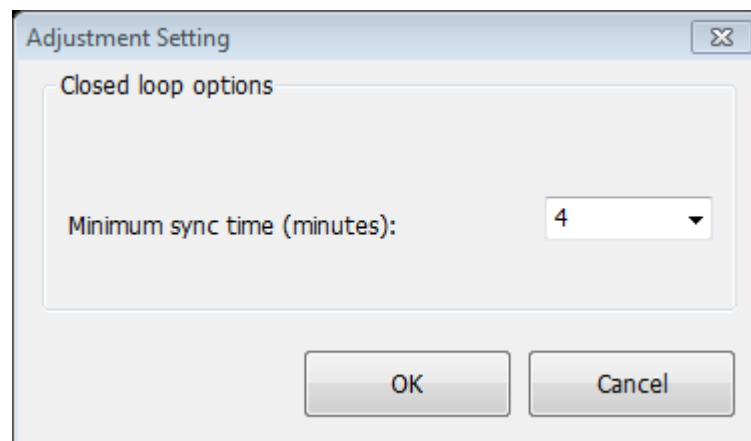

Figure 2-8
- Click [Adjustment] - [Adjustment Settings] as shown in Figure 2-8.